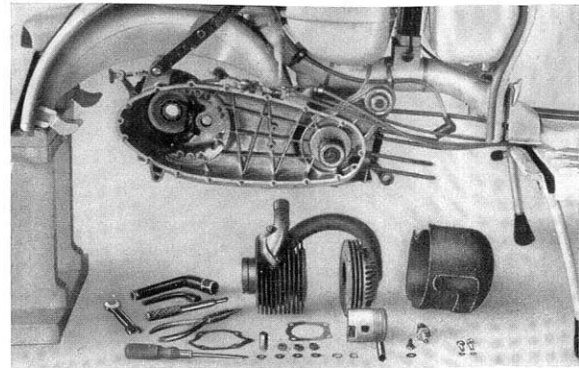

Fig. 16
- 27 To remove piston: extract gudgeon pin circlip push out gudgeon pin using a hand push punch or appropriate tool. Remove the piston rings. (See Fig. 16).